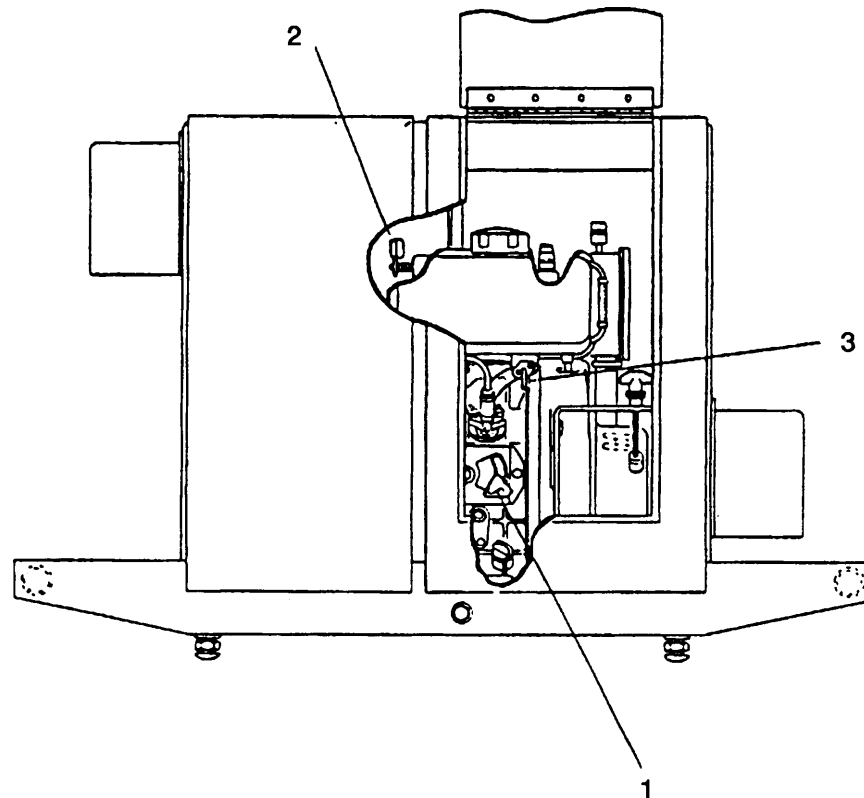

Figure 3-2. Lubrication Points
Apply a drop of engine oil (Appendix E, Section 11, Item 8) to the exposed movable parts of the engine and pump, points, speed control device (1), decompression lever (2), and fuel cock (3) as shown in Figure 3-2